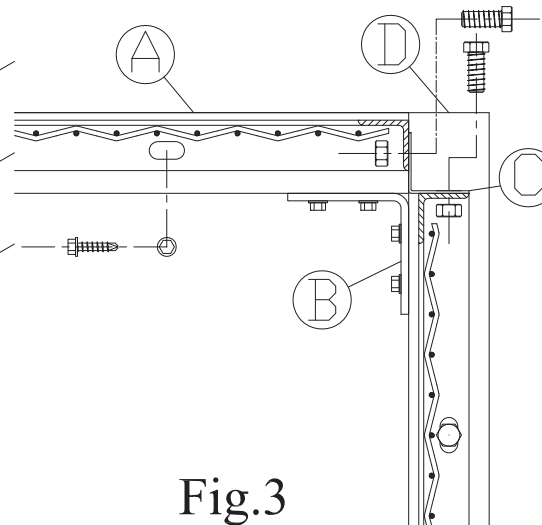

Fig.3
5. Install slotted angle (C) on top of wall panels per instruction page 19.
7. Use self drilling screws to attach panels to horizontal ceiling tubes Fig.3.
8. Lift panels into place, face side up, and attach to slotted angle (C) with 3/8" x 1" bolts (see Fig.3 page 20).